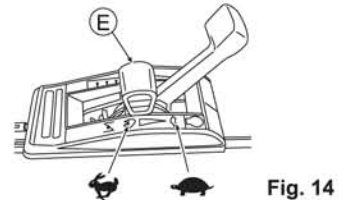

Fig. 14
- Confirm that there is no person behind you when pulling Starter knob (V).
- Securely grab Starter knob (V) when you pull it.
- Return Starter knob (V) slowly.
5. Warm up the machine before use. After the engine has warmed up, start mowing by setting Throttle lever (E) to "S". (See Fig. 14)